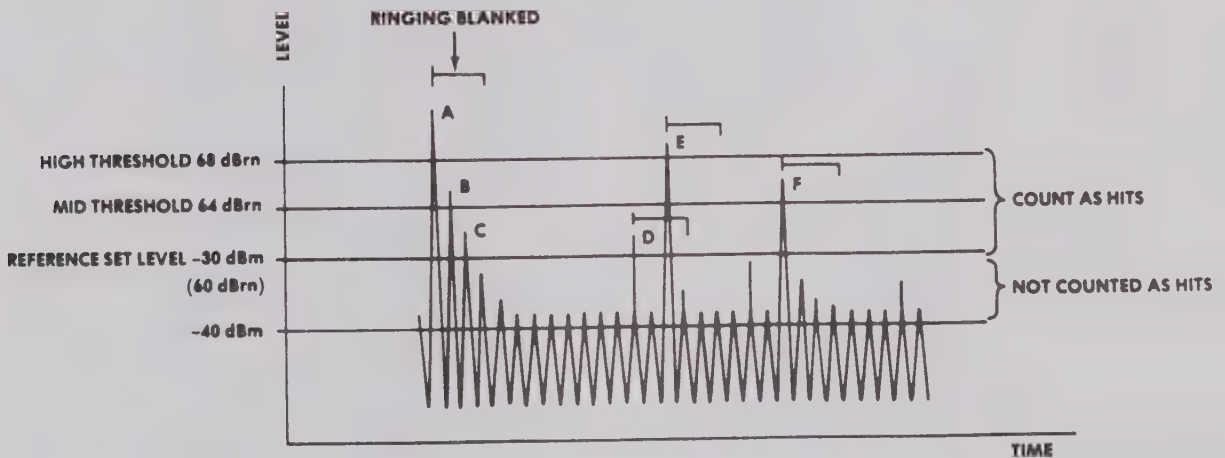

Figure 7.8-1 Impulse Noise Reference Levels
Refer to Fig. 7.8-1. The noise spike at (A) crosses the HIGH threshold, and triggers the blanking circuitry. This spike will count as a reference hit, a MID hit, and a HIGH hit, since it crosses all three